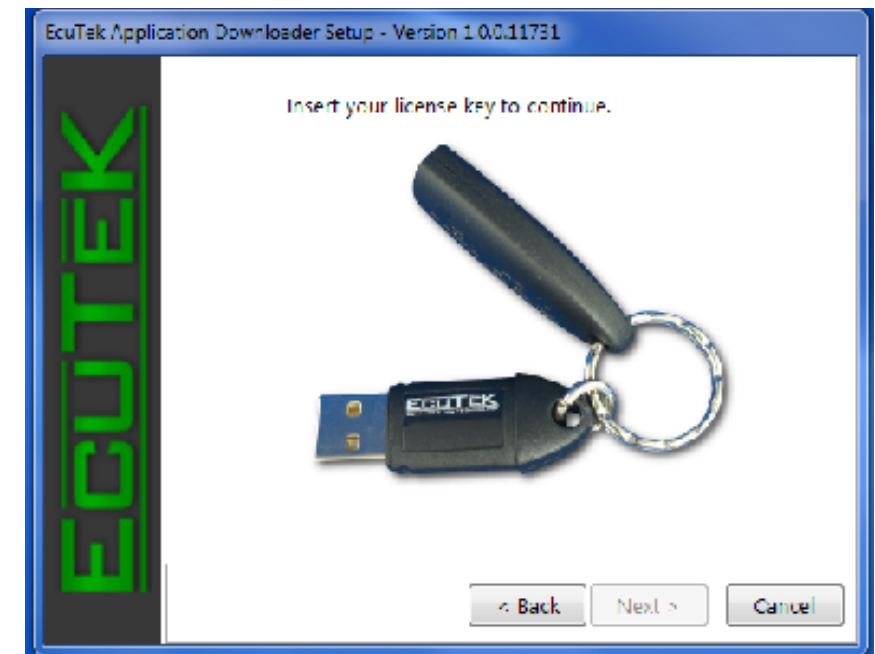

Fig. 1G
- G. After selecting [Next], you will be prompted to insert the license key. See Fig. 1G